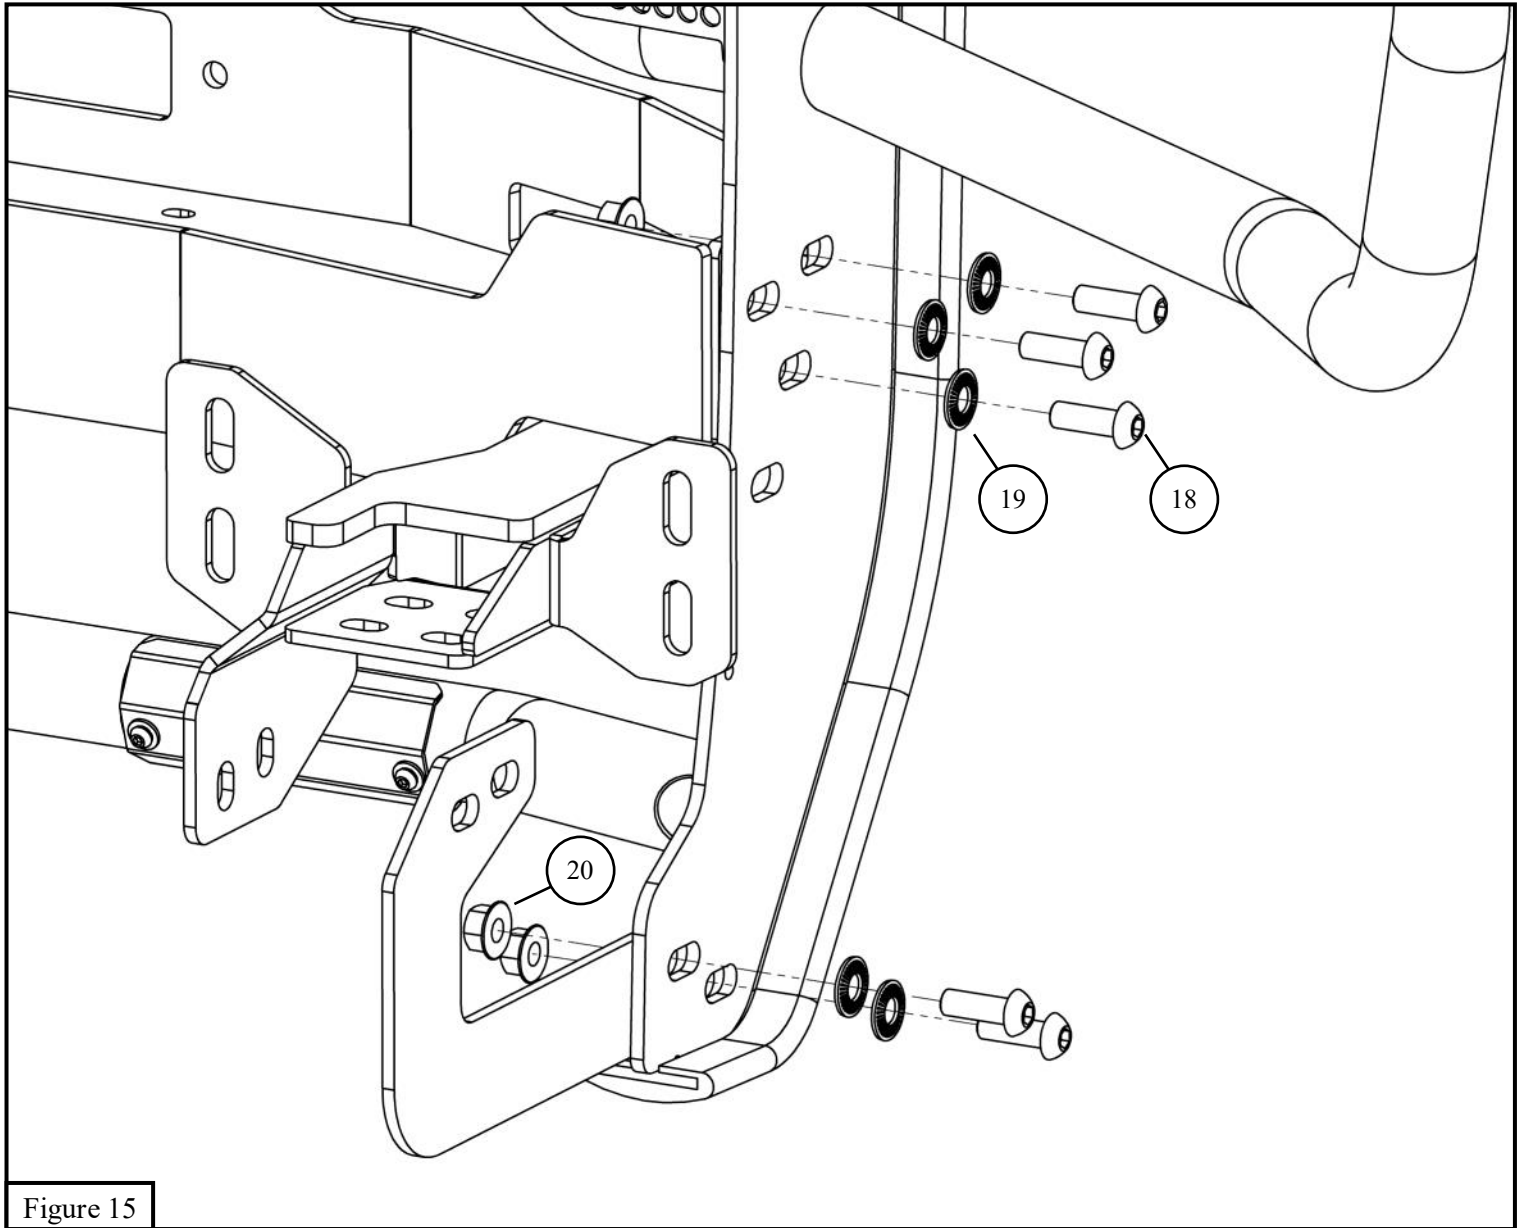

Figure 15
28. Loosely install the HDX grille guard base assembly (**item 1**) onto the winch tray and brackets using the M12 hardware (**items 18-20**). See **Figure 15**.
33. Use the zip ties (**item 24**) to hold the sensor harness extenders in place.